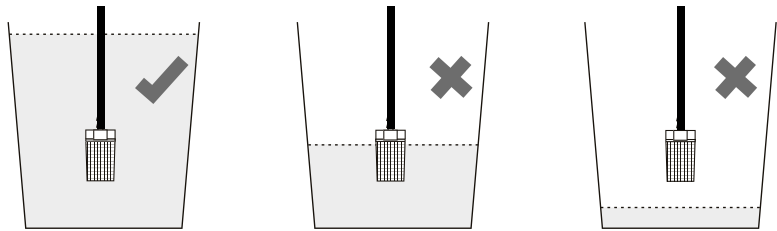

Figure 8
1) If the **ALARM** indicator flashes **Red**, fill the reservoir (Referring to **Figure 8**).